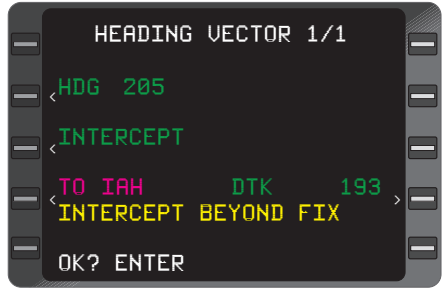

Figure 3-103
9. **ENT** Key - DEPRESS. An Intercept Message may appear (**NO COURSE INTERCEPT**, **NO ARC INTERCEPT**, or **INTERCEPT BEYOND FIX** (Figure 3-103). If no message appears the intercept will occur on the **TO** side of the selected **TO** waypoint.